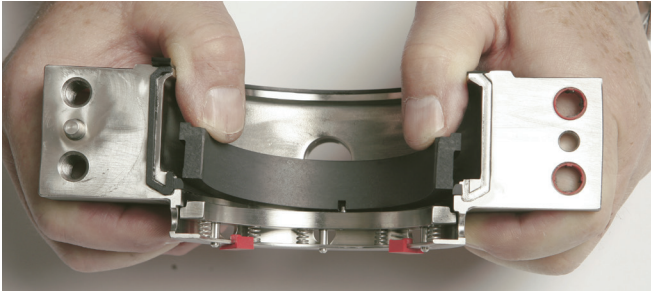

Figure 34
- 14.2 With the gland half sitting on the bench, position the stationary face over the spring holder as shown in Figure 34.